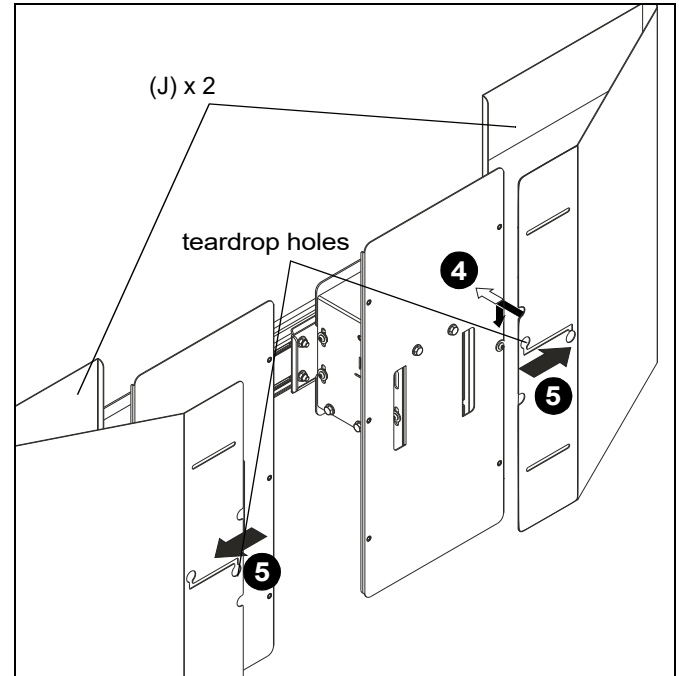

Figure 11
- Hang two side wind shields (J) onto screws loosely installed in Step 3 using teardrop holes in center slots. (See Figure 11)
- Slide wind shields (J) horizontally to desired mounting position. (See Figure 11)